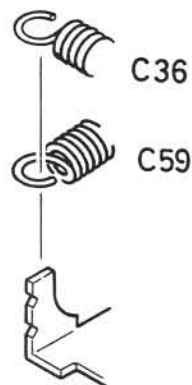

Fig. 14
* Take care of the hooking directions for both springs. Refer to Fig. 14.